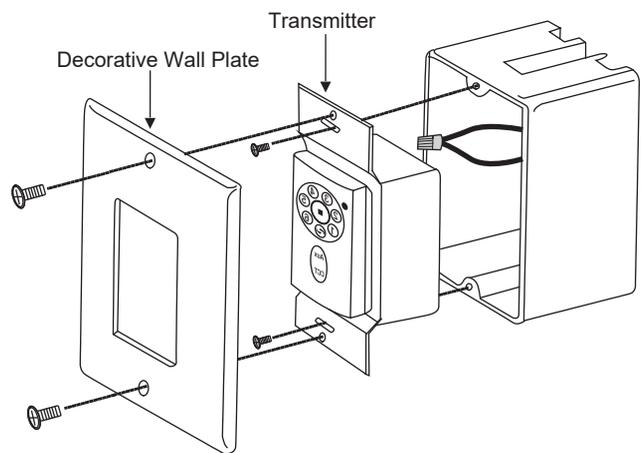

Figure 17
b. Carefully tuck the wire connections inside the outlet box. Use the screws provided to secure the wall transmitter and wall plate to the outlet box. (Fig. 17)